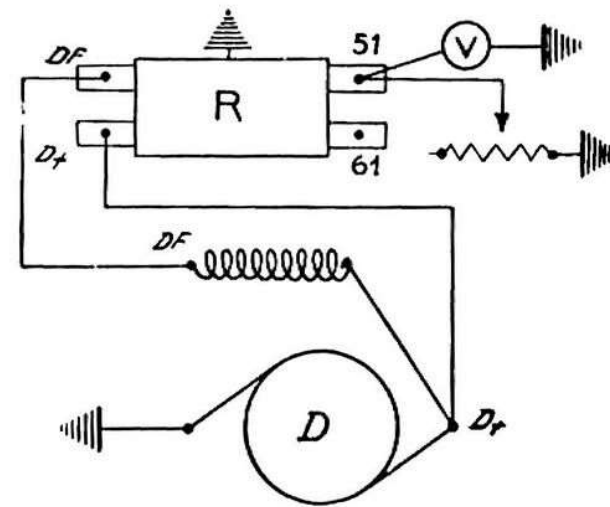

Fig. 123 - Diagram of the loading tension regulation test.
e) Loading tension regulation: Connect the D + and DF clamps of the dynamo with the corresponding regulator clamps. Connect a voltmeter and a rheostat to the « 51 » clamps and the mass (Fig. 123). Regulate the rheostat until, with a normal tension (6 V), the nominal power of the dynamo (45 W) is reached.